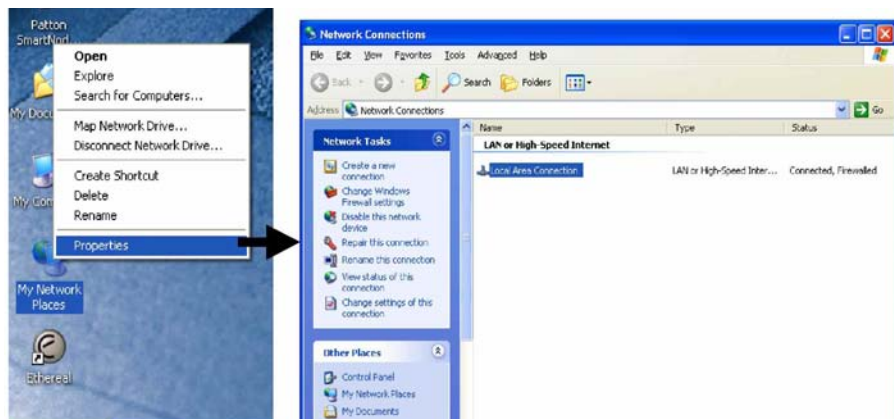

Figure 3. Displaying the Network Connections window
2. Right-click on *My Network Places* and select *Properties* in the context menu (see figure 3).